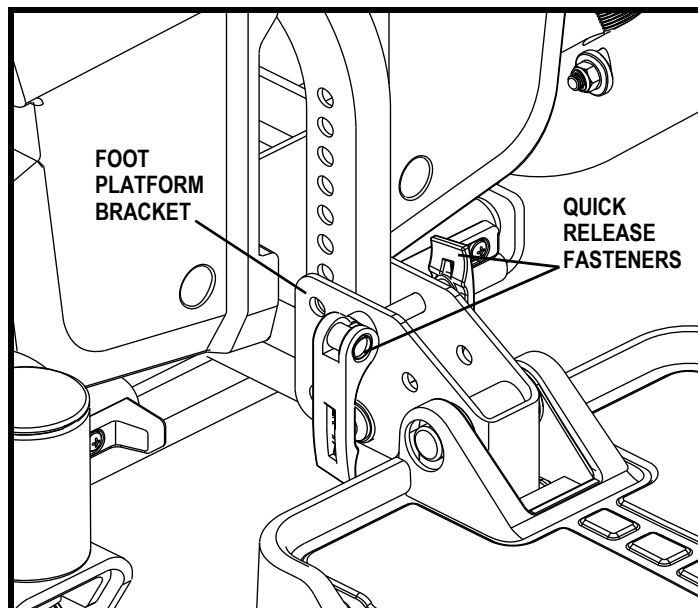
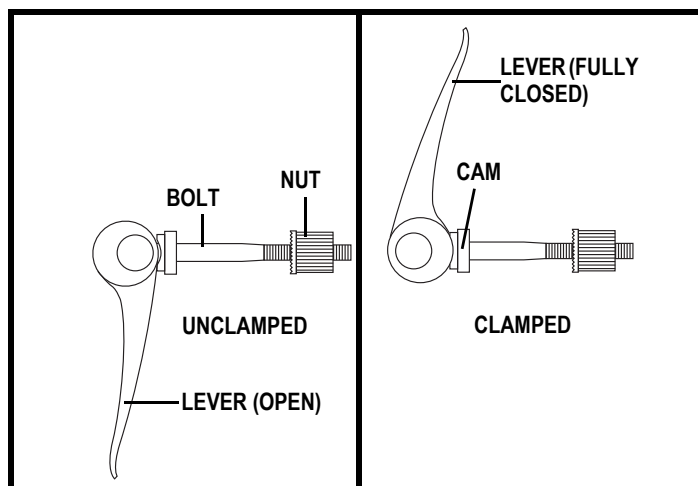

Figure 20. Foot Platform Adjustment
Figure 21. Quick Release Fastener Operation
1. Remove the quick release fasteners from the foot platform bracket. **See figure 20.**
Quick Release Fasteners: The foot platform is attached to the power base with two quick release fasteners. **See figure 20.** Each quick release fastener consists of a bolt, a lever and a nut. **See figure 21.** The lever has a cam on the end that allows it to clamp into place. The quick release fastener has two states: clamped and unclamped. When the lever is open, the quick release fastener is unclamped. When the lever is closed, the quick release fastener is clamped.